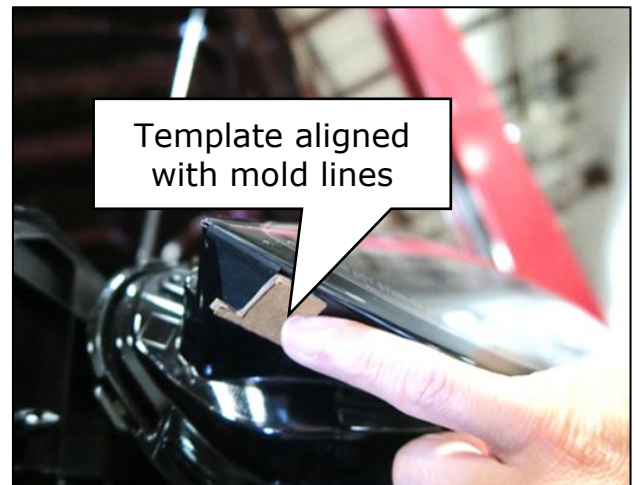

Figure 31
27. On the LH headlamp, align the template with the square mold lines as shown in Figure 31.